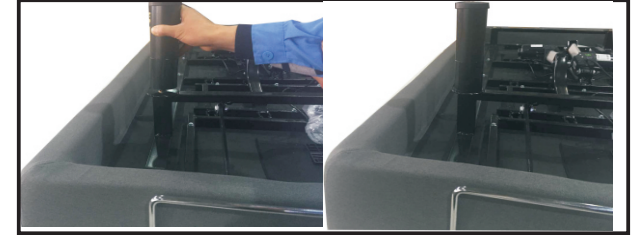

Figure 3
- Install the four legs firmly into the base of the frame. The legs screw into the threaded holes in each corner of the adjustable base frame (See Figure 3). The legs are stackable. The combination give you a set of four 3", 6" or 9" legs. **The minimum height for this base is 0.8"**.